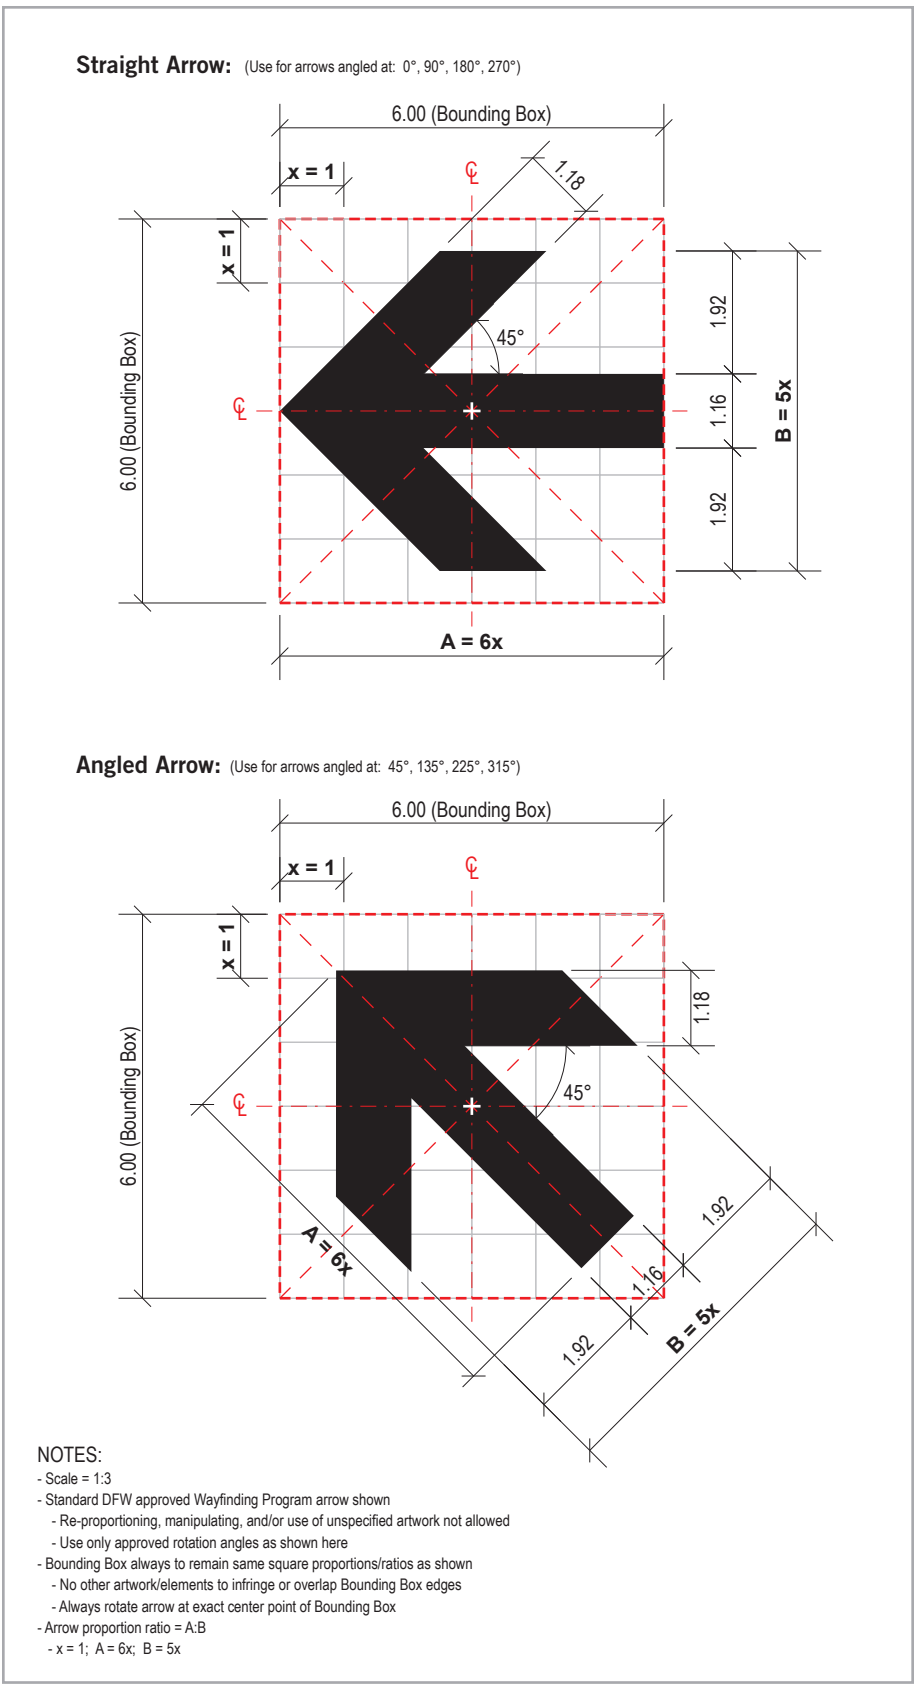

Figure 2.4.1b Wayfinding Arrows: Pedestrian - Proportions
- The placement of arrows on sign faces should conform to the standards and guidelines provided. Arrows should not be positioned in any other location on the sign face. Arrows should not be stretched or re-proportioned outside of the standard locked-up wayfinding arrow artwork as shown (see Figure 2.4.1b). See the DFW Signage Standards and Guidelines for specific sign type arrow/graphic face layouts